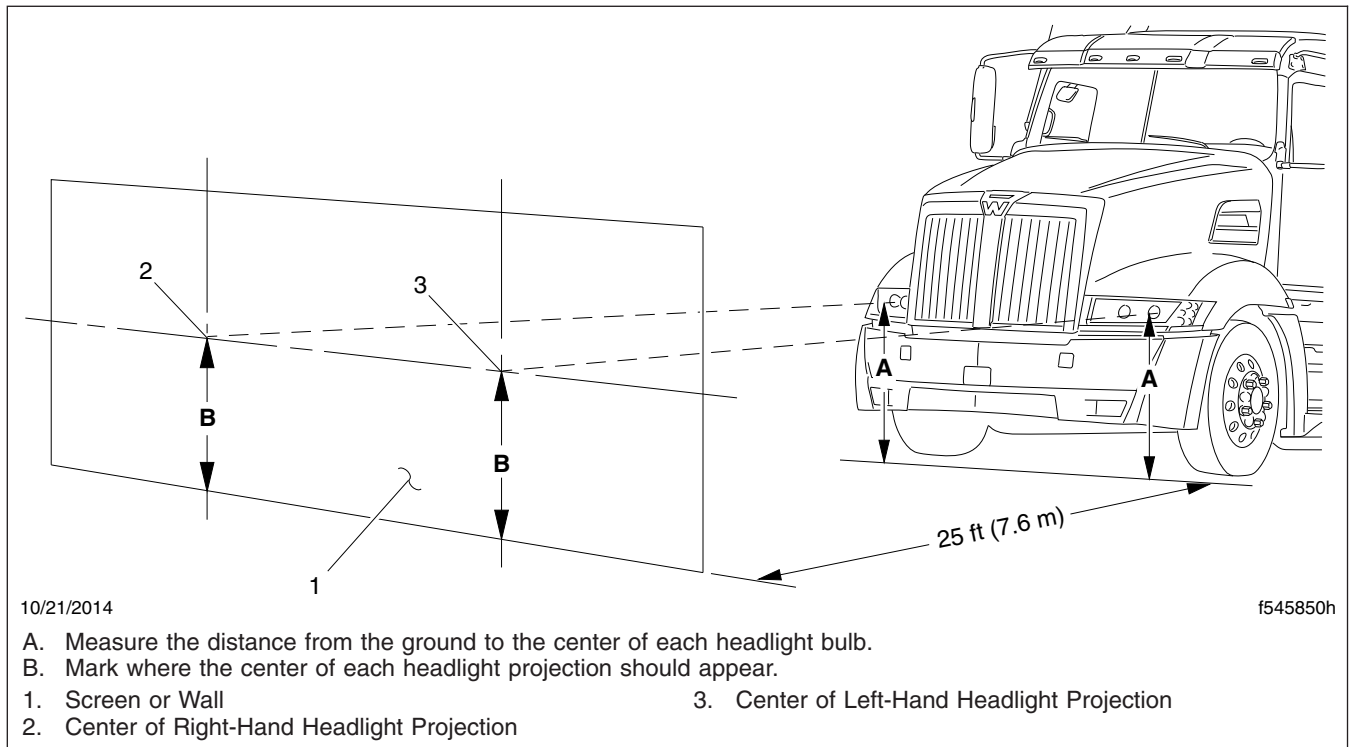

Fig. 20.1, Headlight Aiming Screen/Wall
3. Measure the distance from the ground to the center of each headlight bulb (Fig. 20.1, Item A). Note those distances.
4. On the screen or wall, mark the locations of each low-beam headlight bulb center using the distances found in step 3. See Fig. 20.1, Items 2 and 3.